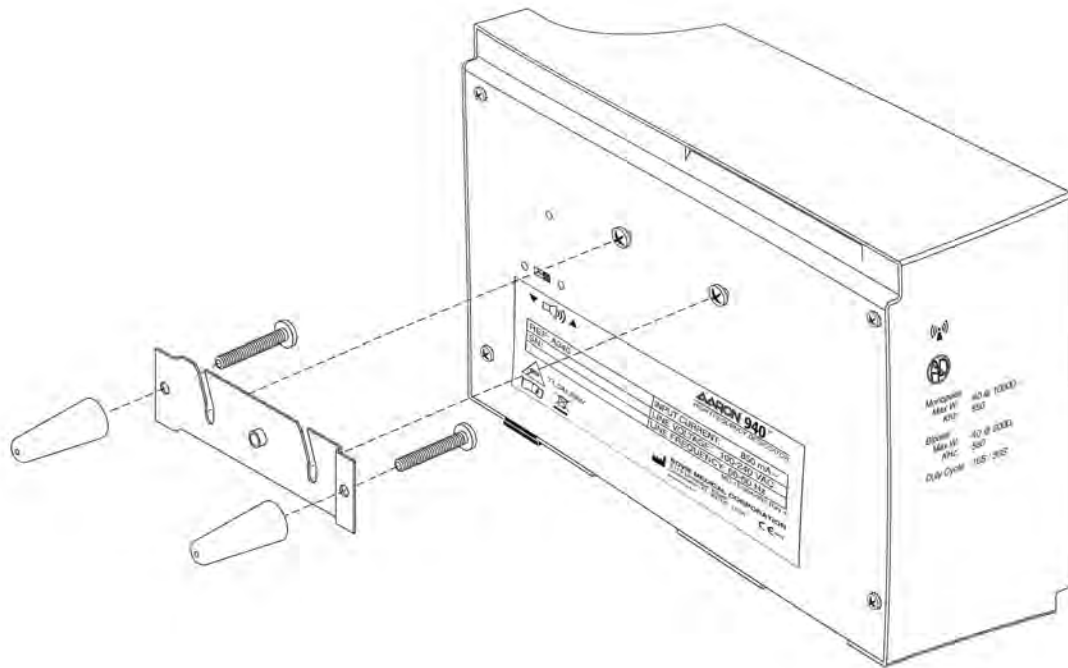

Figure 1
1. Mount the Aaron 940™ on the wall or optional mobile stand using the standard mounting kit (see figure 1). Do not operate the unit in the horizontal position, as liquids may spill into unit.